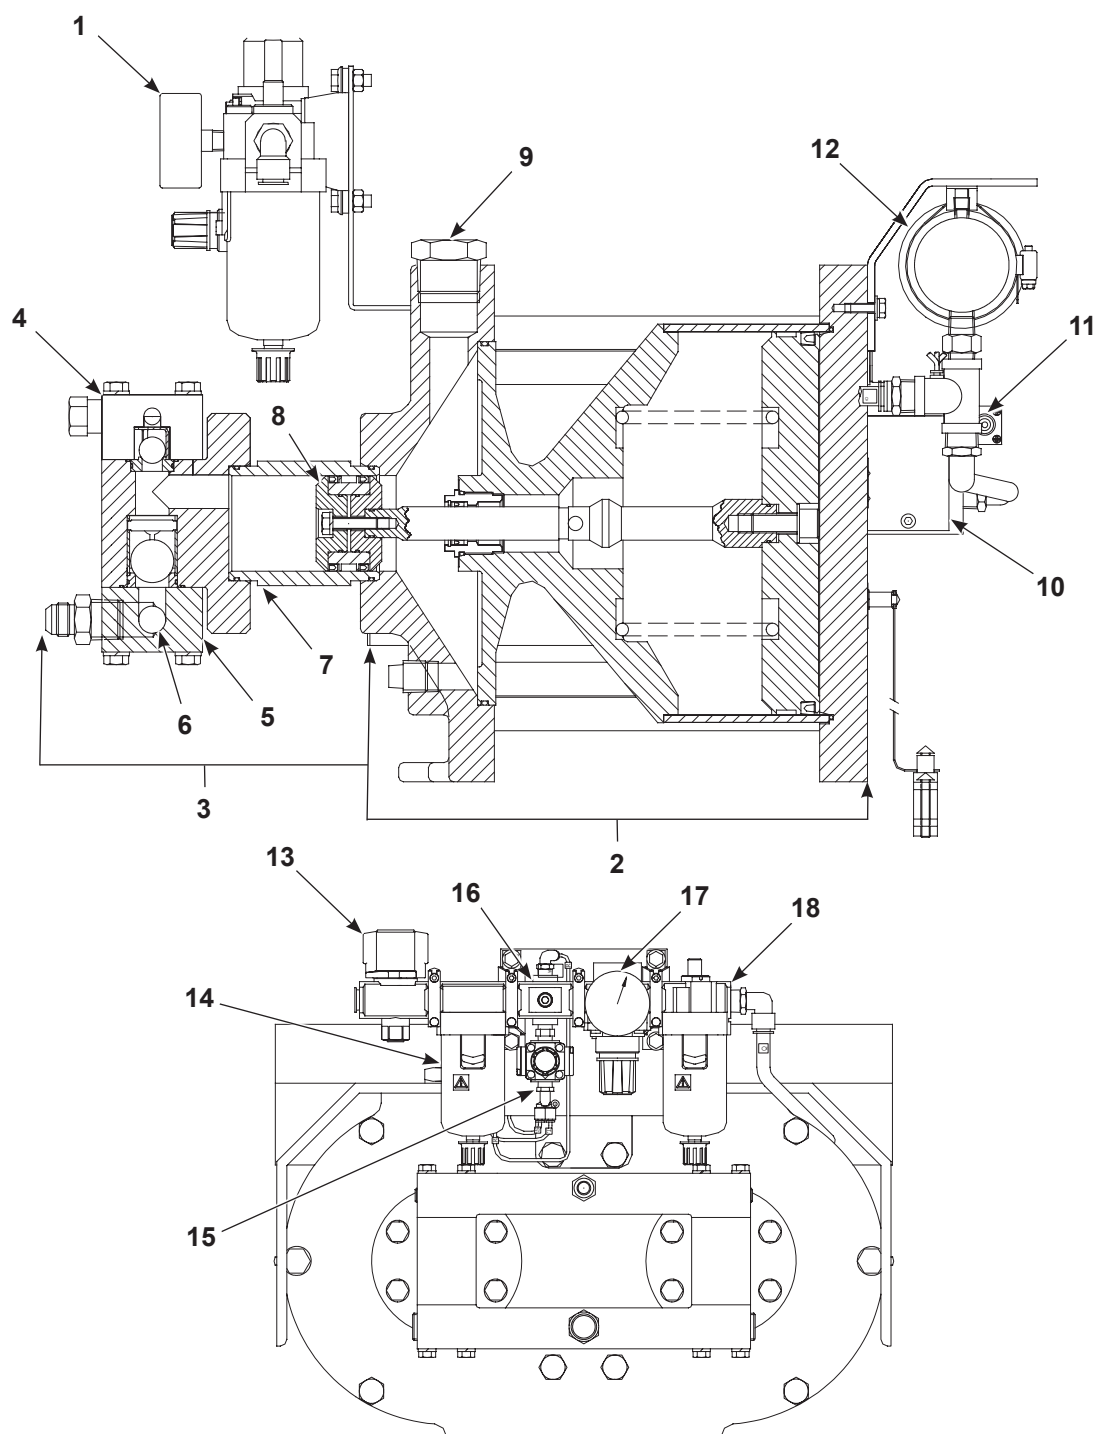

Figure 2-2 JP Pump Components
See Figure 2-2. The pump consists of an air motor section (2), and a hydraulic section (3), and air control components.
See Figure 2-2 and 2-3. Supply air enters the pump at the shut-off valve. The air is filtered and passes into a manifold where unregulated air is delivered through line 3 to the double pilot valve. The unregulated air is used by the double pilot valve to overcome the working air pressure and shift the air valve spool. Regulated pilot air is routed through lines 4 and 5 to the roller valves and then to the double pilot valve to shift its spool.